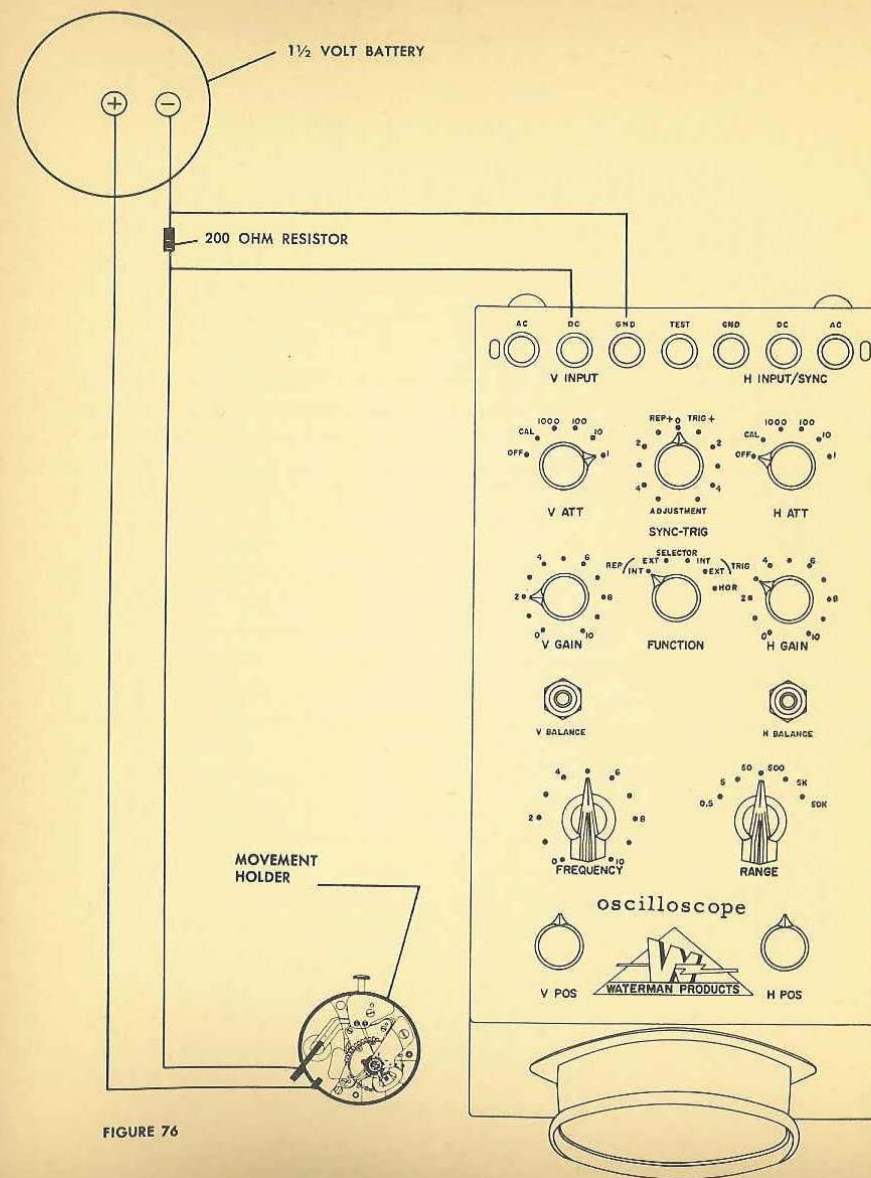

FIGURE 76
1. Connect the power movement holder circuit as illustrated in Fig. 76. The DC input and ground on the vertical input side of the oscilloscope are connected across a 200 ohm resistor as illustrated.